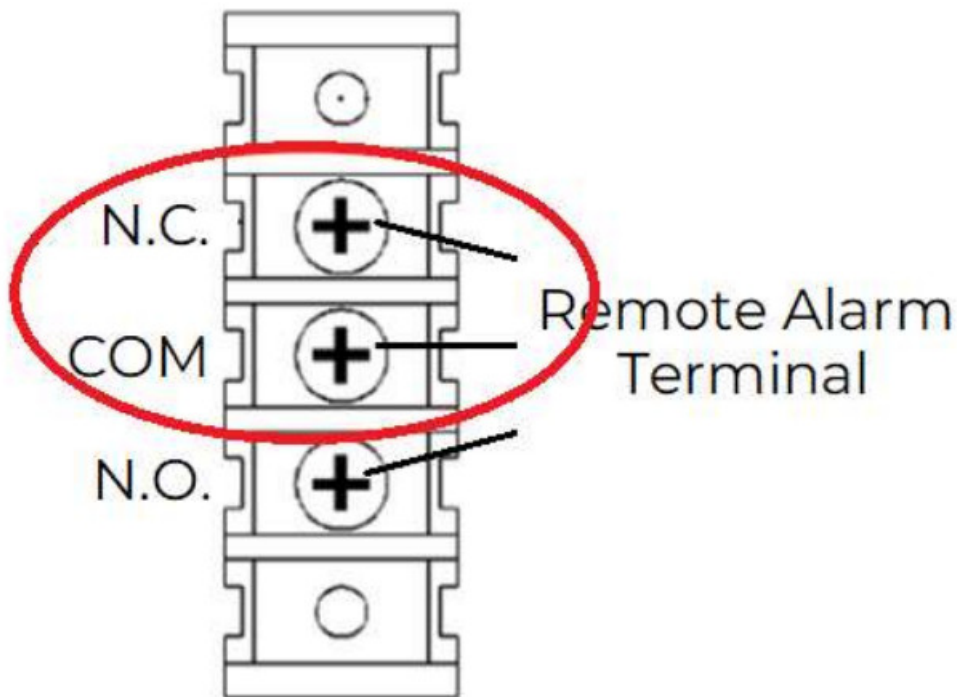

Figure 2 Loosen the NC and COM screws
8. Slightly loosen the NC and COM screws from the panel as shown in Figure 2 below.